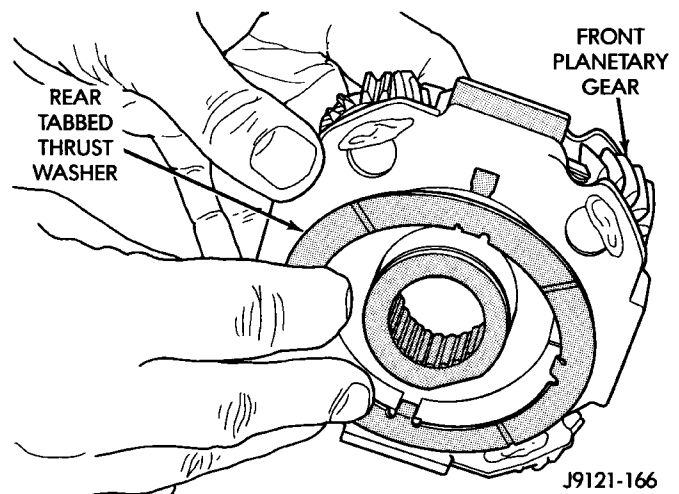

Fig. 178 Installing Rear Thrust Washer On Front Planetary Gear
(13) Install rear thrust washer on front planetary gear (Fig. 178). Use enough petroleum jelly to hold washer in place and be sure all four washer tabs are seated.